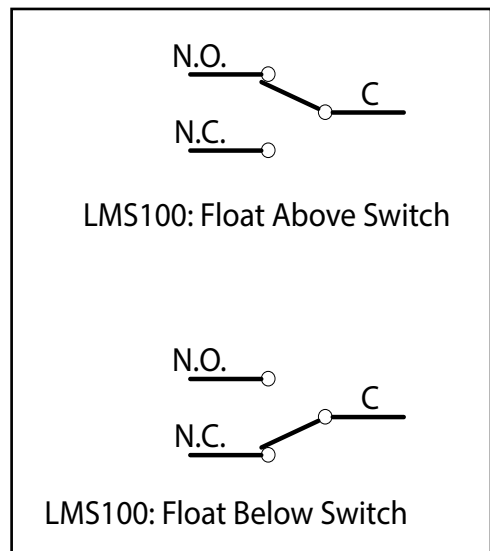

Figure 5.1a: Contact closure shown for both conditions of the switch relative to the magnetic float.
2. Remove the terminal plug from the terminal. Connect the field wires to the terminal plug according to the application. See the wiring diagram below. (figure 5.1a)